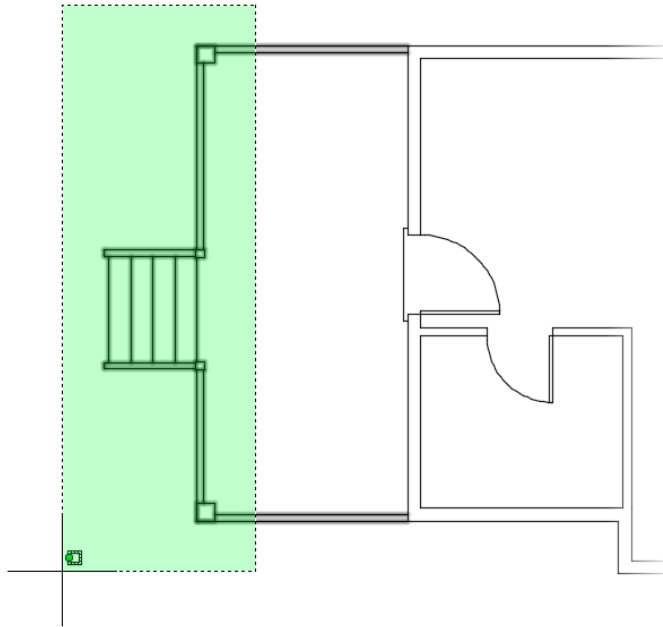

FIGURE 5.30: Selecting the deck components for the STRETCH command
4. At the **Select objects:** prompt, place the cursor above the deck and to the right of the stairs, but be sure the point is to the left of the threshold (see Figure 5.30).
5. At the **Specify opposite corner:** prompt, click a point outside and to the left of the deck, as shown in Figure 5.30. The deck objects glow to indicate that they are selected. Press ↵ to discontinue selecting objects.